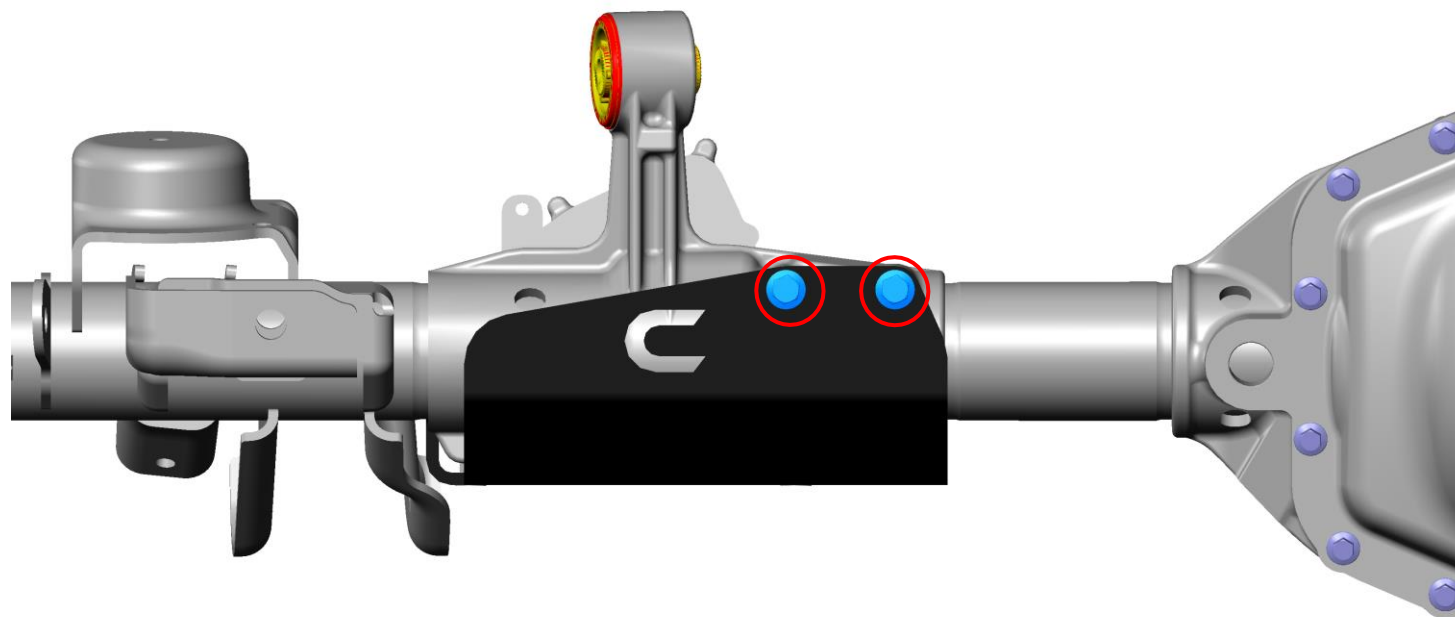

Figure 5: Factory skid plate bolts installed on new FAD skid plate (front)
5. Using a 13mm socket, install the two front upper factory skid plate bolts on the front of the new FAD skid plate. The bolts are highlighted in Figure 5 below.